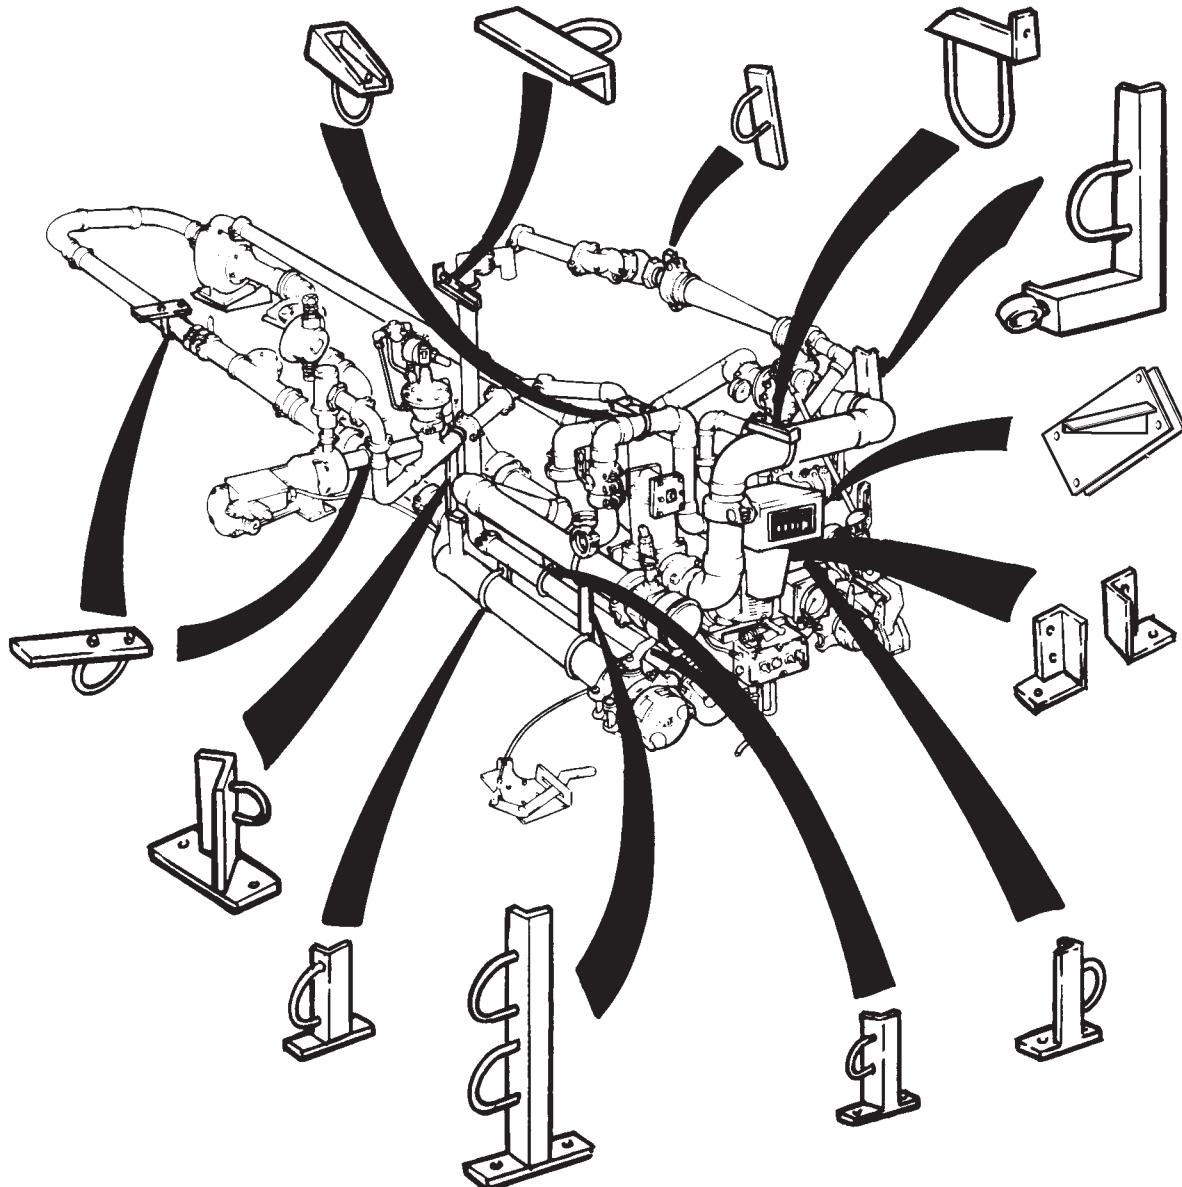

Figure 25-7. Tanker Piping Brackets.
- f. Tanker Piping Brackets. Refer to Figure 25-7 for location of specific tanker piping brackets.